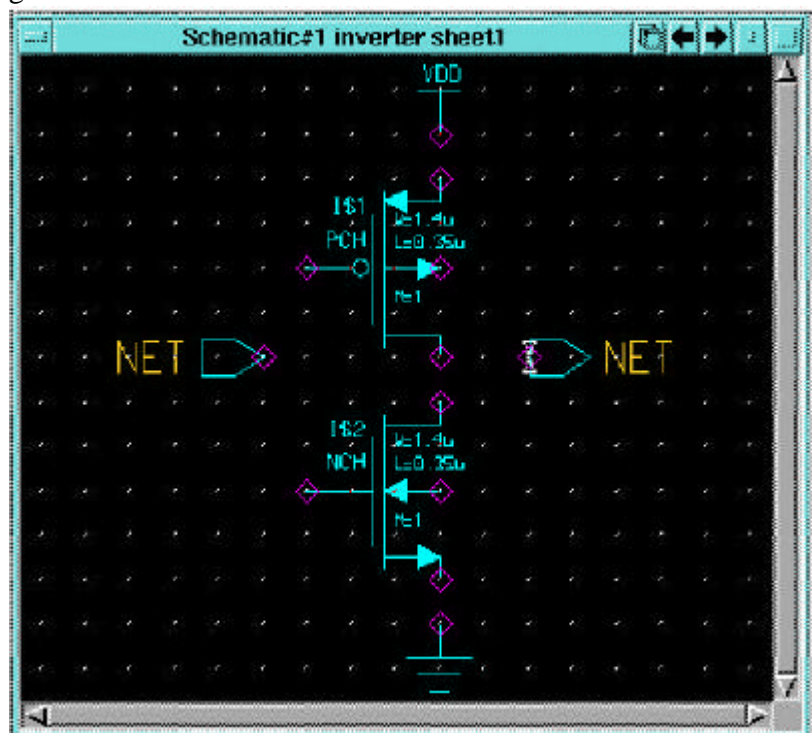

Figure 4-1 The required components in schematic diagram
2. Click on **Generic Lib** to place **Portin**, **Portout**, **VDD**, and **Ground** as shown in Figure 4-1.